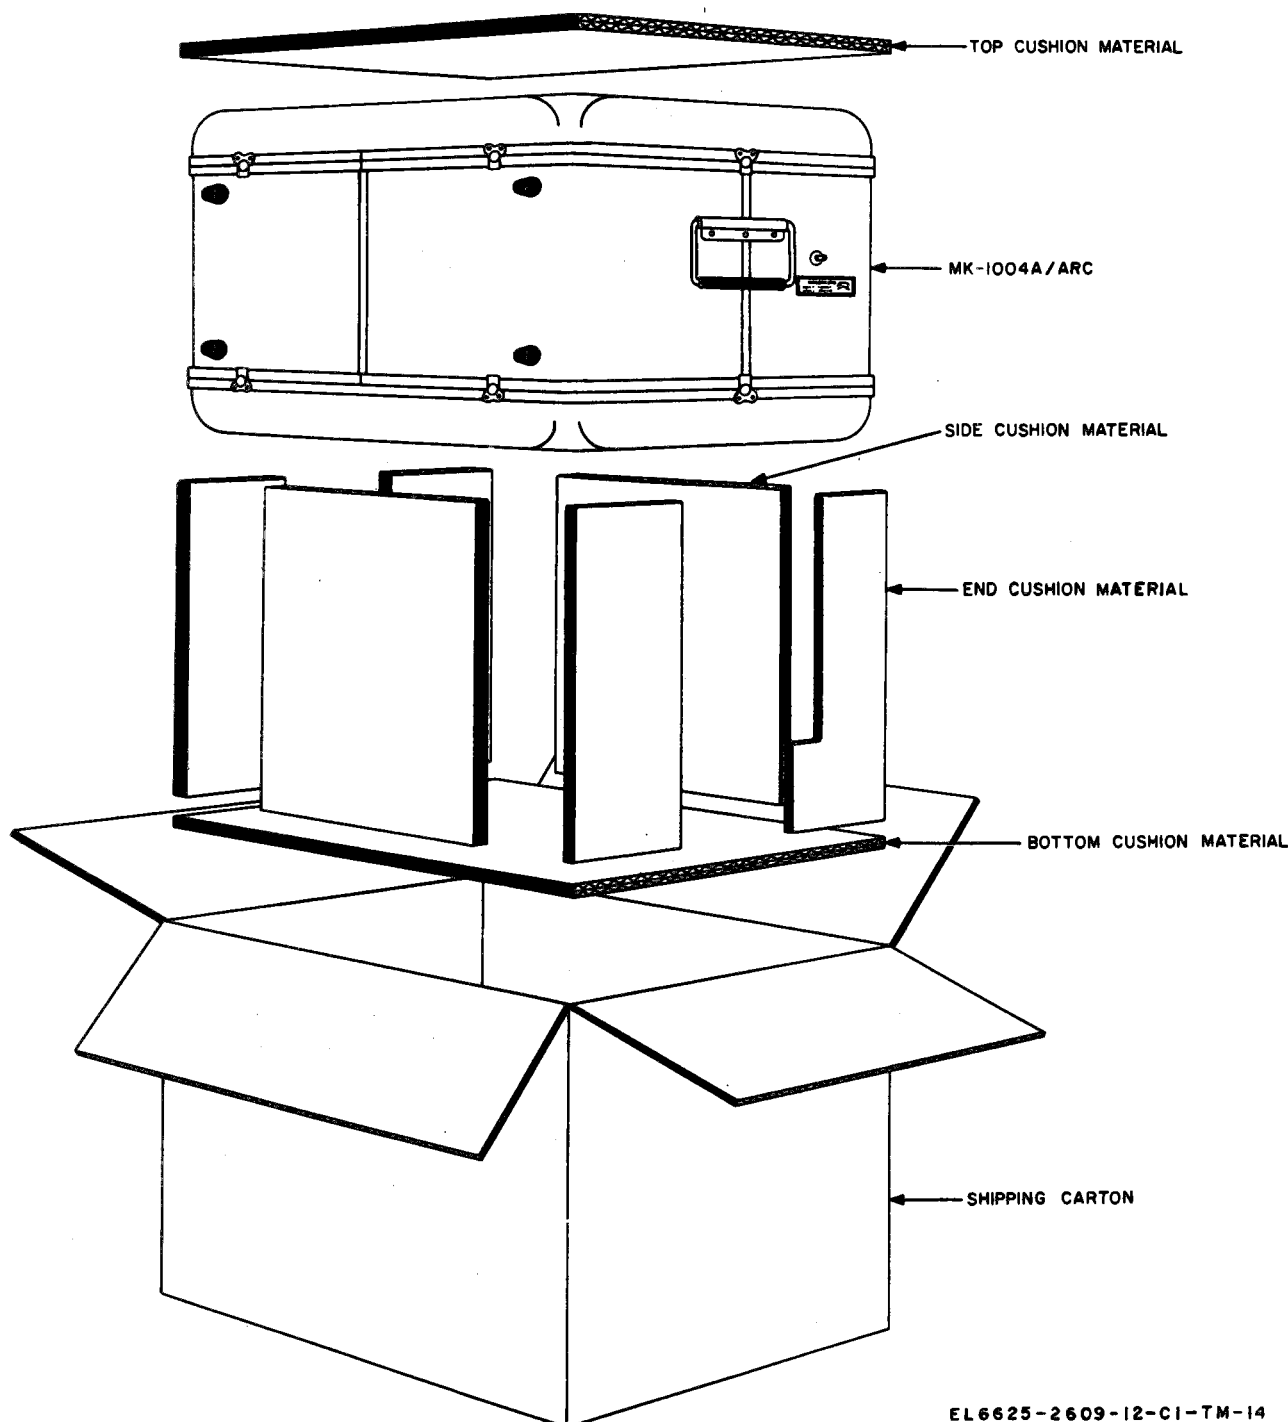

Figure 2-1. Maintenance kit packaging diagram.
a. *Packaging Data.* When packed for shipment, the units of the maintenance kits are sealed in a single shipping carton. The shipping carton and its contents are shown in figure 2-1. The dimensions are 13 x 11 x 17 inches, the volume is 1.4 cubic feet, and the
switches, indicators, and jacks of the maintenance kit. Figure 2-1 illustrates them.